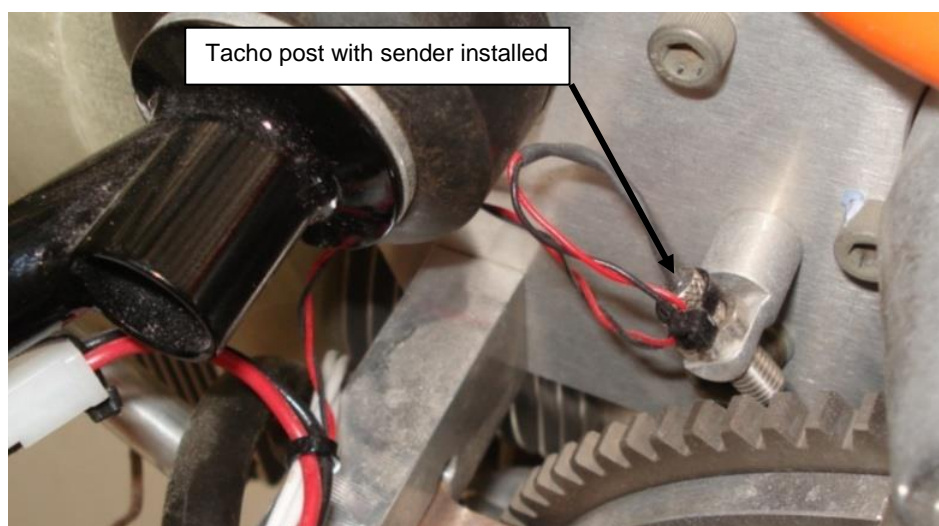
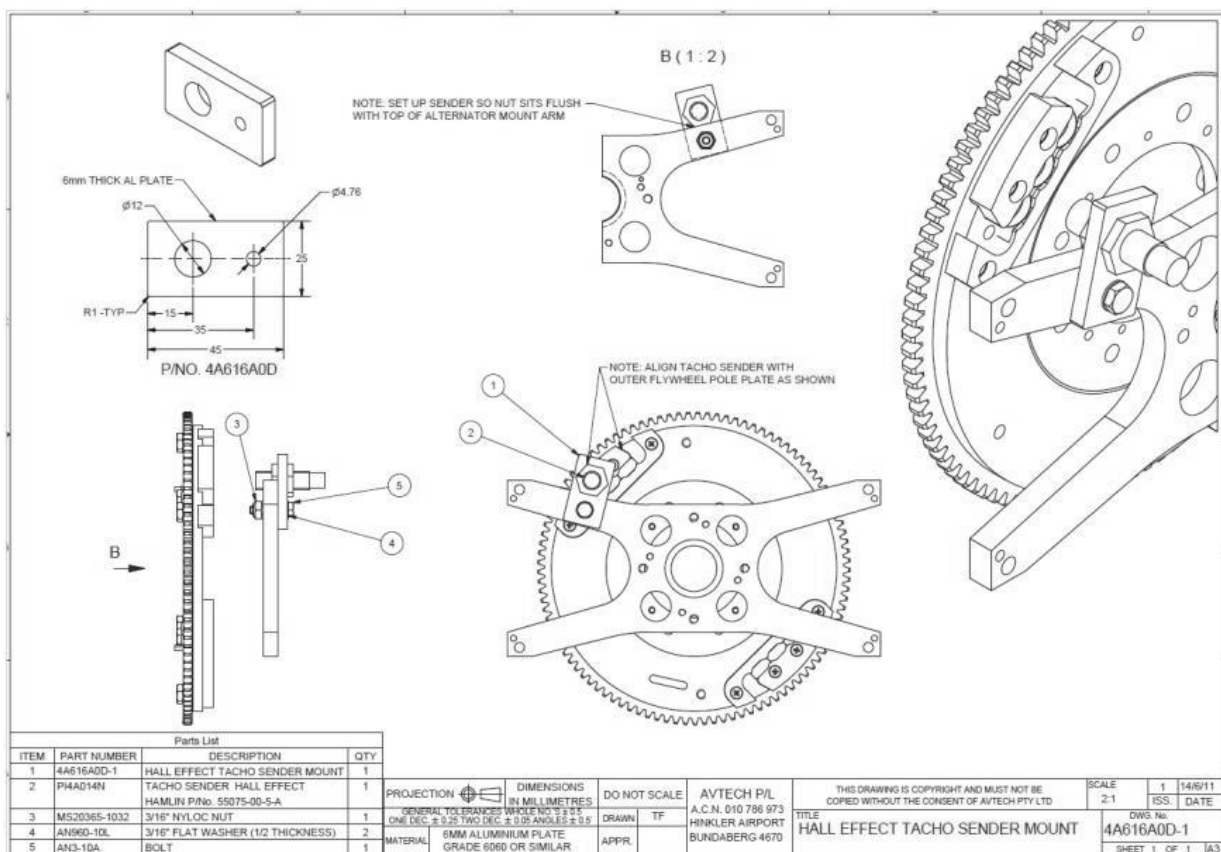

Figure 37 – Tacho Sender #1
Figure 38 – Tacho Sender #2
- Two types of sender have been used on Jabiru Engines as shown in Figure 37 (Type 1) and Figure 38 (Type 2).
- Type 2 senders are installed per the requirements of Figure 38.